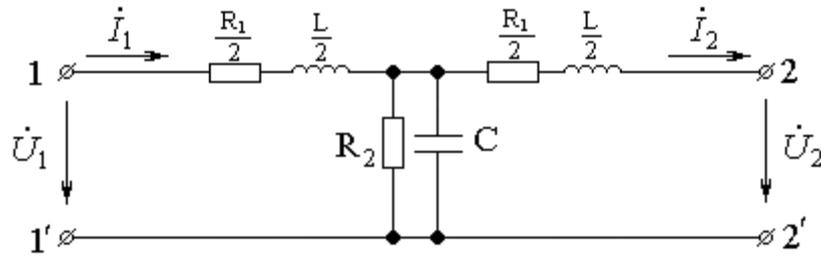
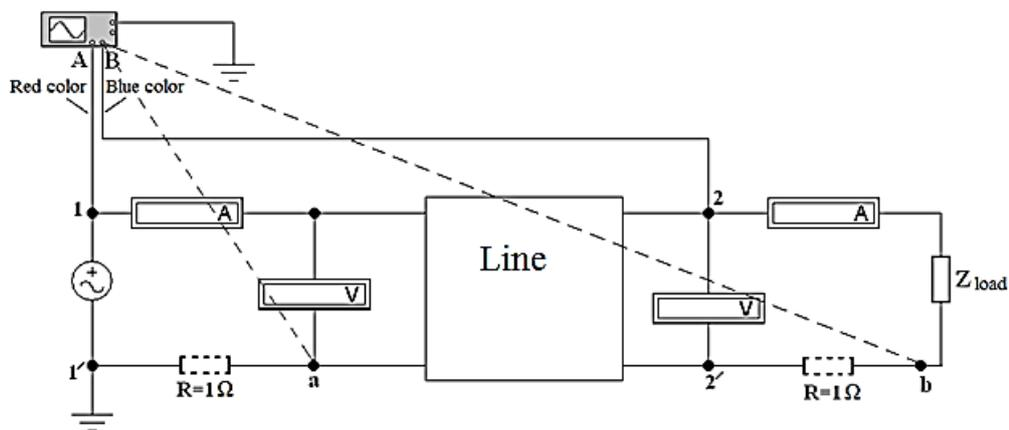

Figure 4.1 – Equivalent scheme of the transmission line
Figure 4.2 – Connection diagram for measuring instruments
4.2.2 Assemble the electric circuit of a transmission line (figure 4.1), plug in the power supply source, the load and the measuring instruments (figure 4.2).